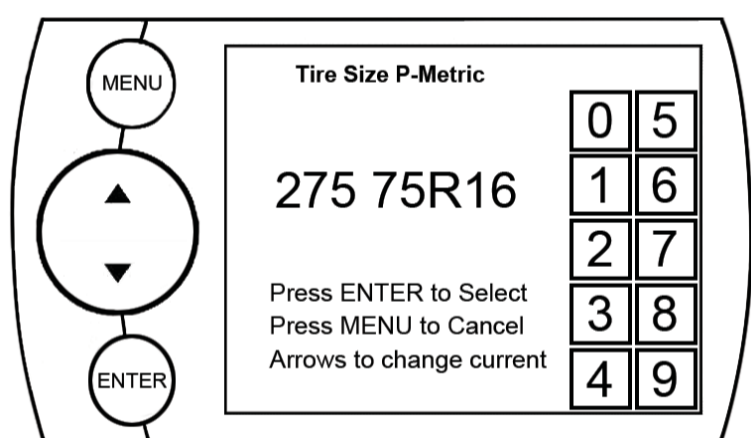

Figure 20
**NOTE:** *If your tire size is printed on the tire in P-Metric the easiest option will be choosing P-Metric (Figure 20).*